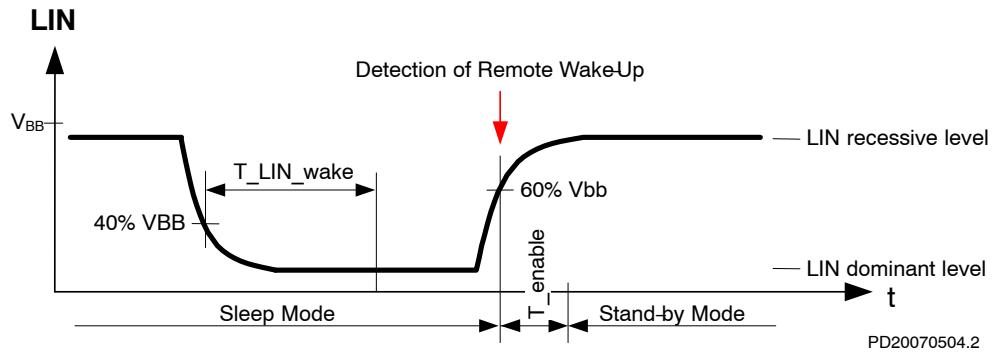

Figure 5. Remote (LIN) Wakeup Detection
- Local wakeup – when a high-to-low transition on pin WAKE is encountered and WAKE pin remains Low at least during T_{WAKE} – see Figure 5.